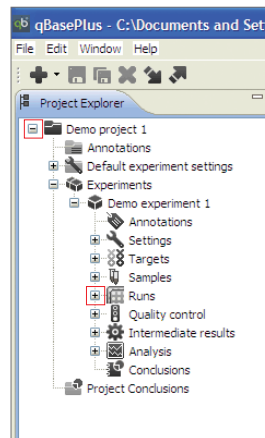

Fig. 5. The expanded file tree in Project Explorer.
1. Open qbase^{PLUS} software. qbase^{PLUS} software uses a file tree structure to store qPCR data, as shown in the Project Explorer pane. You can expand or minimize the folders in the file tree by clicking the (+) and (-) signs next to each folder, or by double clicking the name of the folder (Figure 5).